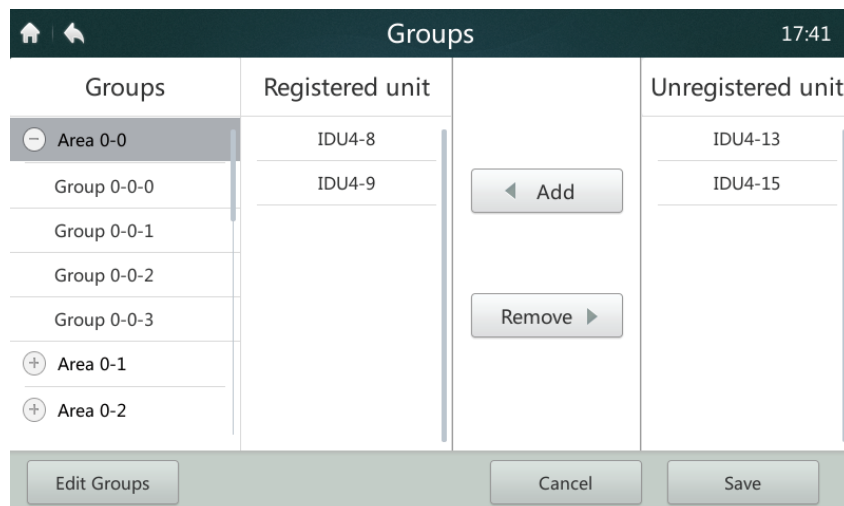

Figure 40 Homepage 2 of Group View page
- The user needs first to create groups. After groups are created, the group view page is displayed, as shown in Figure 40.
- Tap to select the group on the left for adding or deleting IDUs, as shown in Figure 40.
- Tap to select a group on the right ungrouped device list, as shown in Figure 40. Tap the **"Add"** button to add it to the selected group. The device will be displayed in the grouped device list.